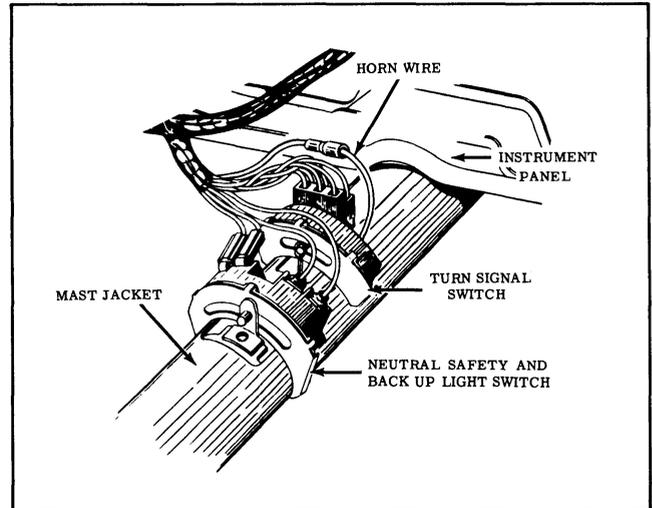
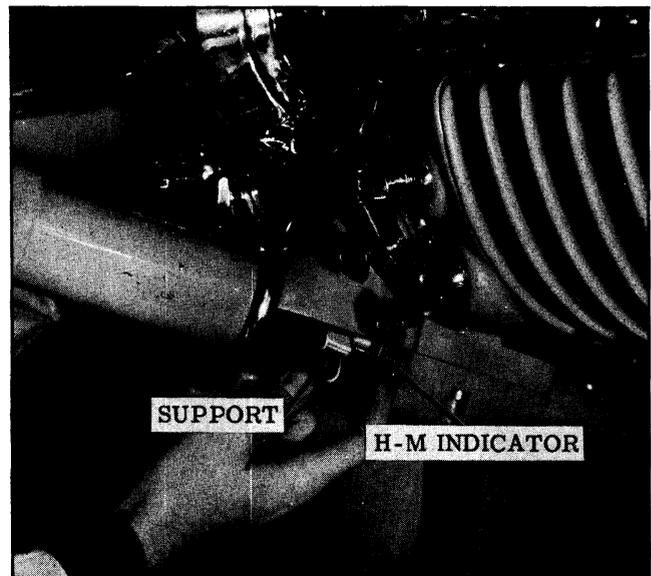

Fig. 5-91 Switch Locations
Fig. 5-92 H-M Indicator Needle Removal
- Hydra-Matic - Disconnect the turn signal wires, neutral safety switch wires, and the back-up light wires from the switches on the mast jacket. (See Fig. 5-91) Remove the upper mast jacket clamp from the upper bracket, then remove the H-M indicator pointer from the shifter tube. (See Fig. 5-92)
Hydra-Matic - Disconnect the turn signal wires, neutral safety switch wires, and the back-up light wires from the switches on the mast jacket. (See Fig. 5-91) Remove
the upper mast jacket clamp from the upper bracket, then remove the H-M indicator pointer from the shifter tube. (See Fig. 5-92)